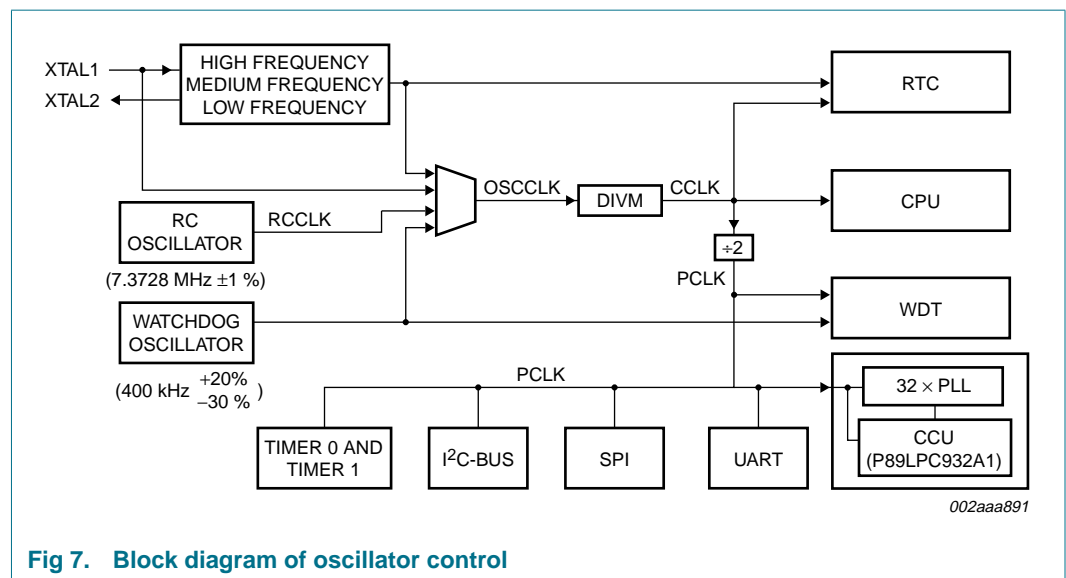

Fig 7. Block diagram of oscillator control
**OSCCLK** — Input to the DIVM clock divider. OSCCLK is selected from one of four clock sources (see Figure 7) and can also be optionally divided to a slower frequency (see Section 7.8 “CCLK modification: DIVM register”).